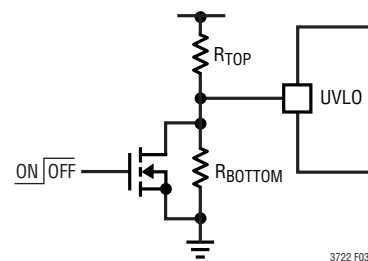

Figure 3. System UVLO Setup
The LTC3723-1/LTC3723-2 provides undervoltage lockout (UVLO) control for the input DC voltage feed to the power converter in addition to the  $V_{CC}$  UVLO function described in the preceding section. Input DC feed UVLO is provided with the UVLO pin. A comparator on UVLO compares a divided down input DC feed voltage to the 5V precision reference. When the 5V level is exceeded on UVLO, the SS pin is released and output switching commences. At the same time a 10 $\mu$ A current is enabled which flows out of UVLO into the voltage divider connected to UVLO. The amount of DC feed hysteresis provided by this current is:  $10\mu A \cdot R_{TOP}$ , (Figure 3). The system UVLO threshold is:  $5V \cdot \{(R_{TOP} + R_{BOTTOM})/R_{BOTTOM}\}$ . If the voltage applied to UVLO is present and greater than 5V prior to the  $V_{CC}$  UVLO circuitry activation, then the internal UVLO logic will prevent output switching until the following three conditions are met: (1)  $V_{CC}$  UVLO is enabled, (2)  $V_{REF}$  is in regulation and (3) UVLO pin is greater than 5V.
UVLO can also be used to enable and disable the power converter. An open drain transistor connected to UVLO as shown in Figure 3 provides this capability.